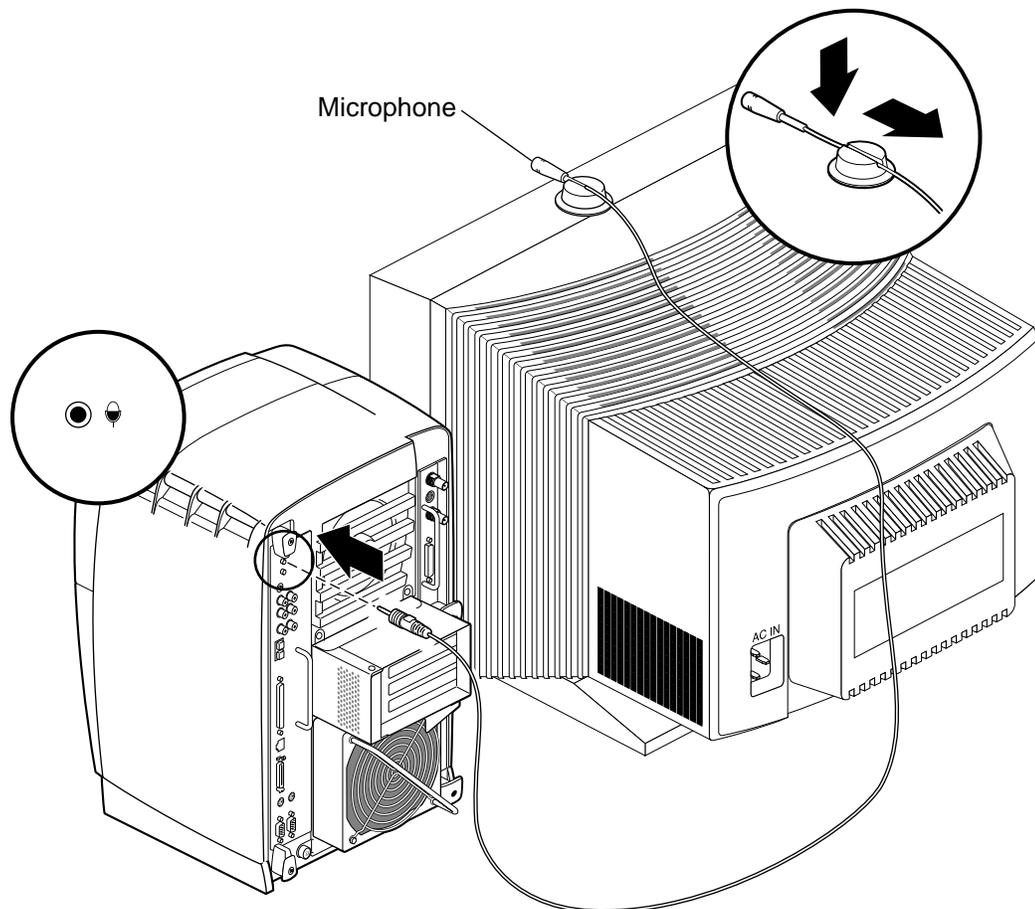

Figure 1-10 Attaching the Microphone
7. Set up the microphone, as shown in Figure 1-10.